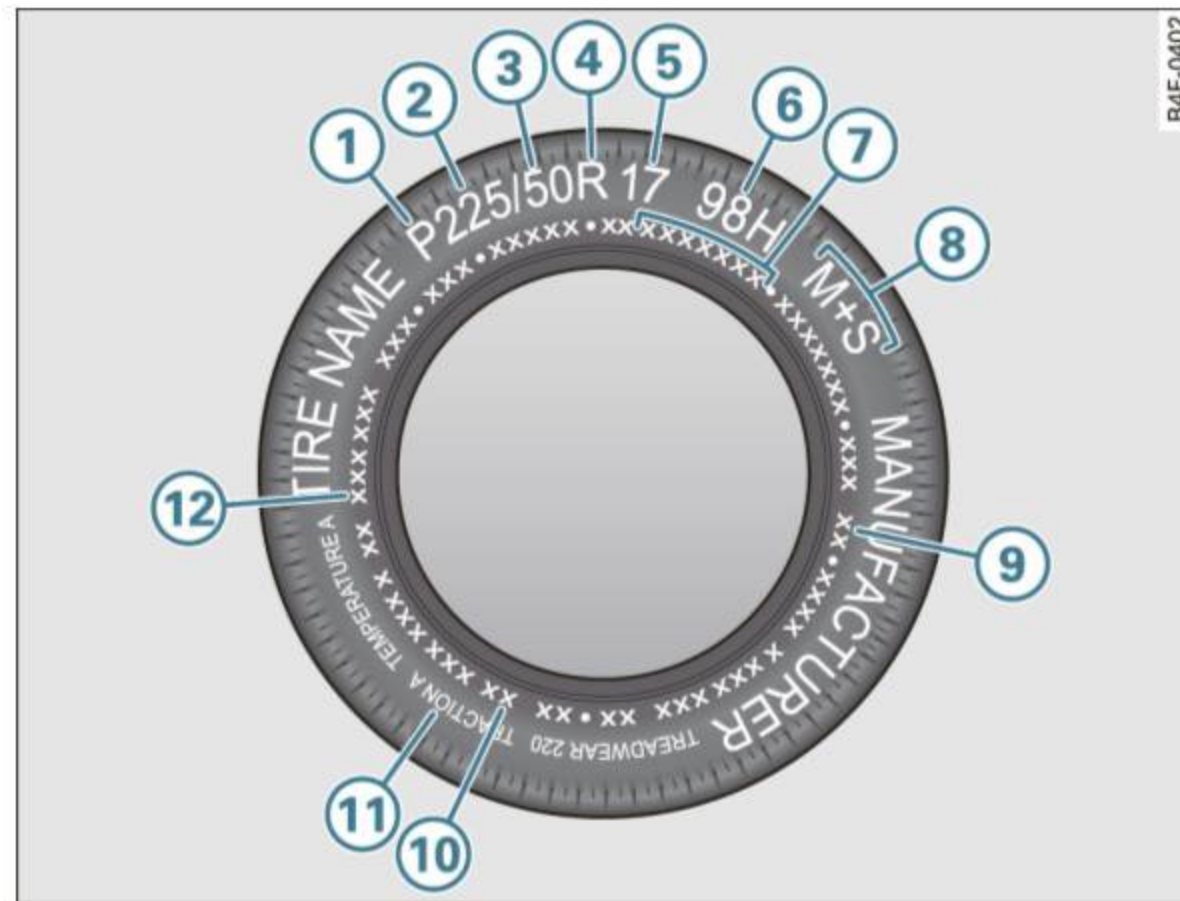

Fig. 199 Tire specification codes on the sidewall of a tire
- Check the tire sidewall (⇒ *page 283*, fig. 199) to determine the designated load rating for a specific tire. ■
Federal law requires tire manufacturers to place standardized information on the sidewall of all tires ⇒ *page 283*, fig. 199. This information identifies and describes the fundamental characteristics, the quality grade of the tire and also provides a tire identification number for safety standard certification and in case of a recall.